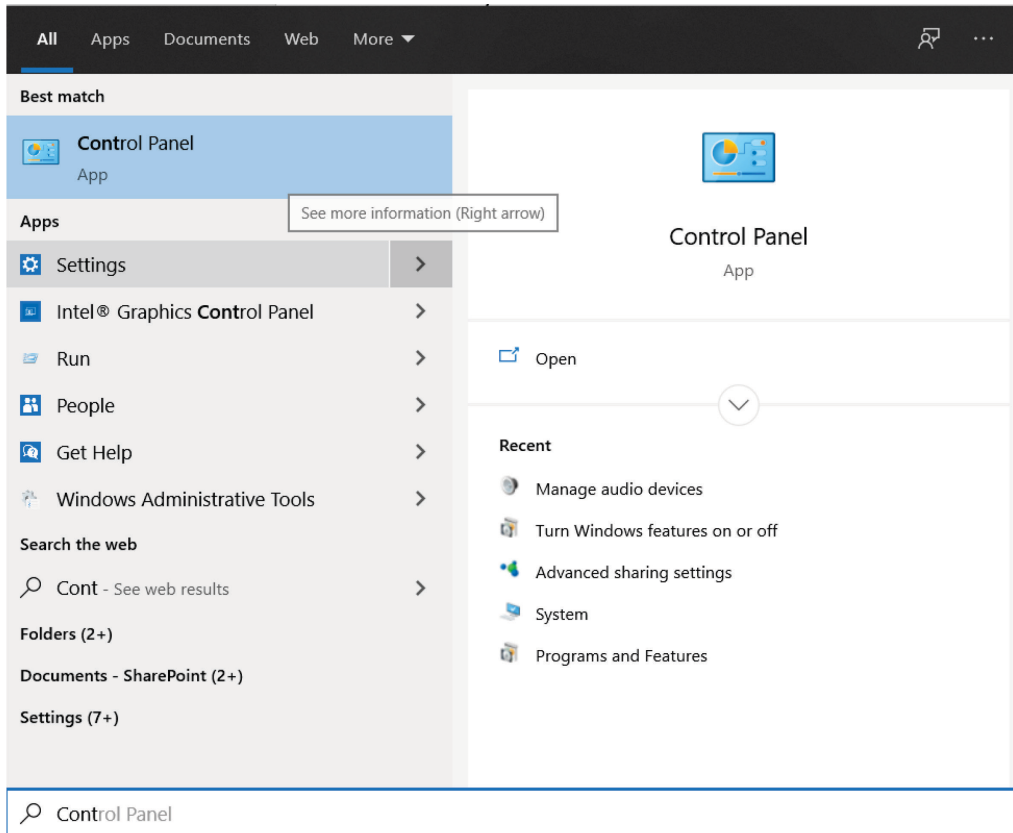

Figure 5. Searching for the Control Panel in the Start menu.
1. Click on the **Start** menu button and search for the **Control Panel** (Figure 5).